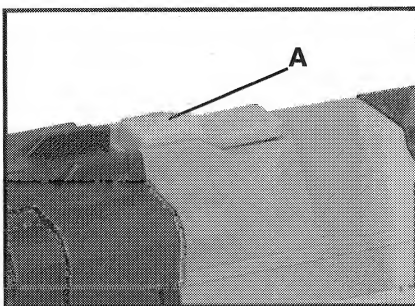

Fig. 2
2. Slide the switch button (A) Fig. 2, forward to turn tool "ON". When released, the switch will return to the "OFF" position.
3. To lock the switch in the "ON" position: With the switch "ON", press the front end of the switch button (A) Fig. 2, in toward the tool housing. To release the switch lock: Press the back end of the switch button in toward the tool housing.